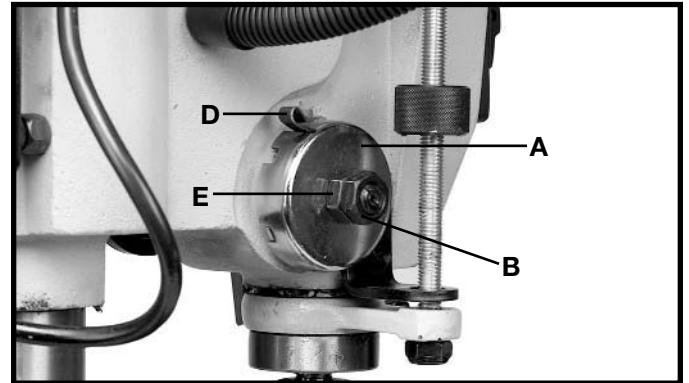

Fig. 27
2. Loosen nuts (B) and (E) Fig. 27. Make sure spring housing (A) stays engaged with head casting.
3. While **FIRMLY HOLDING** spring housing (A) Fig. 27 pull out housing and rotate it until boss (D) is engaged with the next notch on the housing. Turn the housing counterclockwise to increase or clockwise to decrease spring tension. Turn nut (E) until it contacts spring housing (A), then back nut (E) out a 1/4 turn from spring housing (A). Tighten nut (B) against nut (E), to hold the housing in place. **IMPORTANT: Inside nut (E) should not contact spring housing (A) when tightened.**